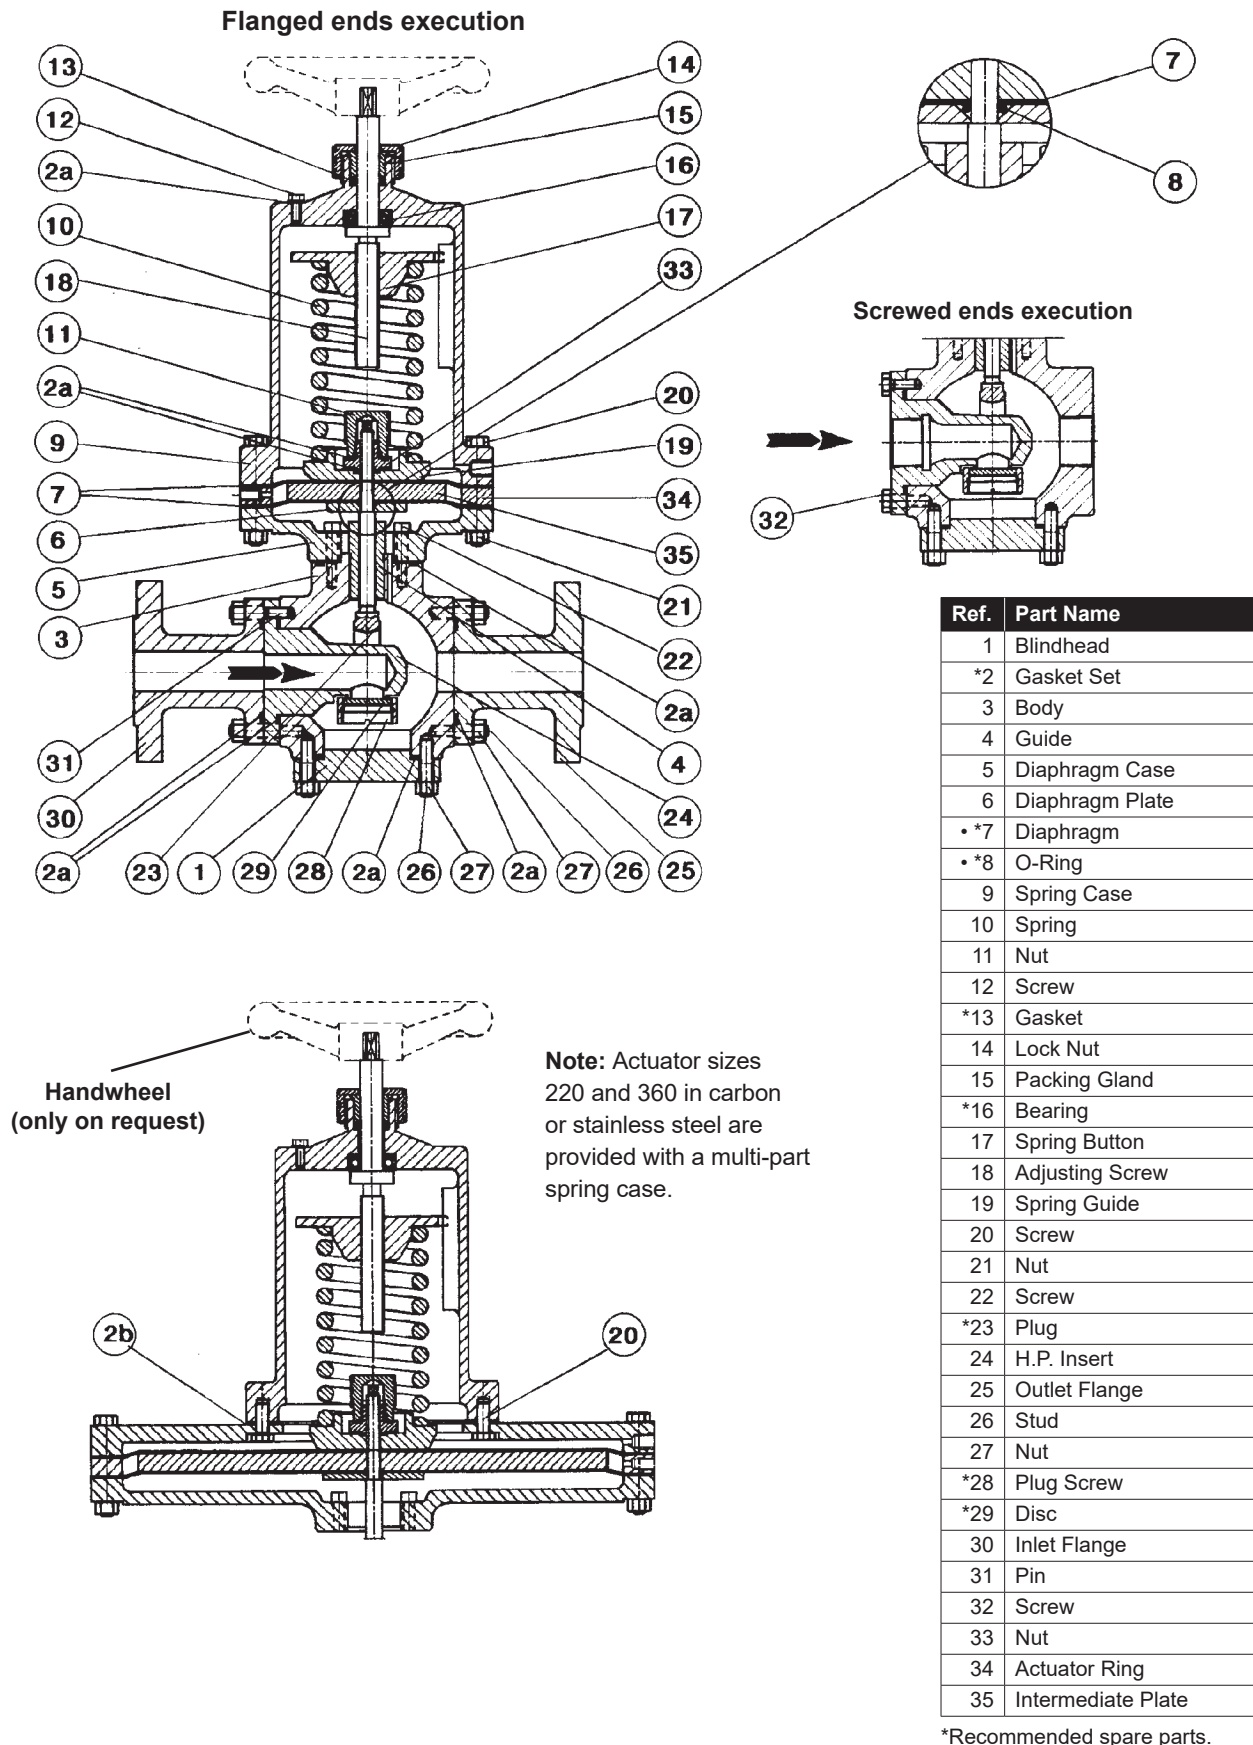

Fig. 11
**Group 2: 172-50 Double Diaphragm (Fig.11)**